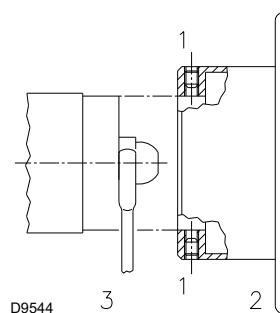

Fig. 21
- fix it with the spanner through the central hole of the flame stability disk or loosen the screws 1)(Fig. 21);